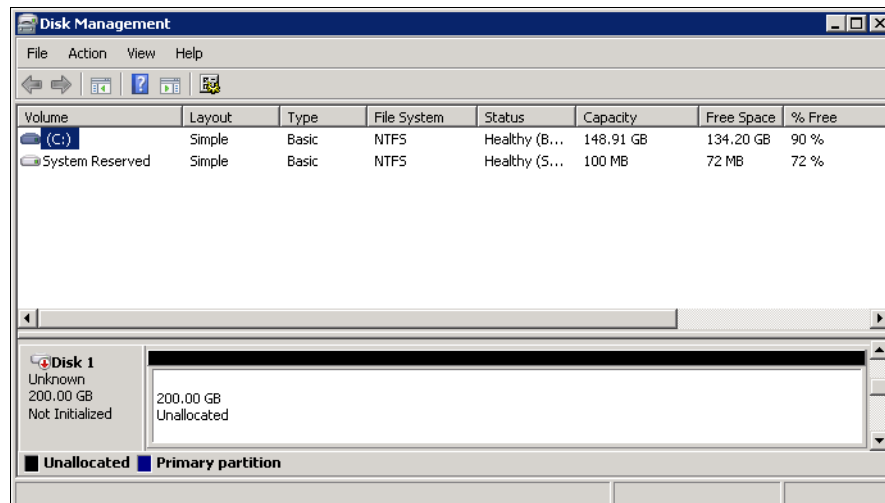

Figure 5-33 Windows Disk Management
- The output provides information about the connected volumes. In our example, there is one disk that is connected, Disk 1 for the Windows host, and two paths to the disk are available (State = Open). Open the Windows Disk Management window (as shown in Figure 5-33) by clicking **Start** → **Run**. Enter `diskmgmt.msc` and click **OK**.